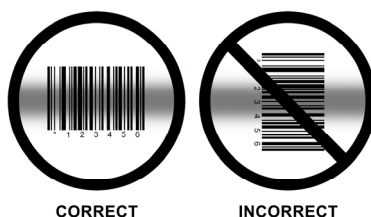

Figure 11. 1D Programming Bar Code Orientation
**Note:** When scanning 1D programming bar codes, the bar code must be presented to the scanner in the correct orientation, see Figure 11. PDF and 2D matrix codes may be presented in any orientation.